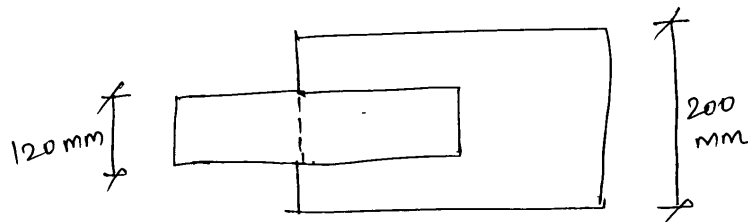

Fig.2
- (b) Design a suitable fillet weld to connect the plates as shown in Fig. 2 to transmit a pull equal to the full strength of small plate. Given plates are 10 mm thick, grade of plate : Fe410 and welding is made in field. (13)